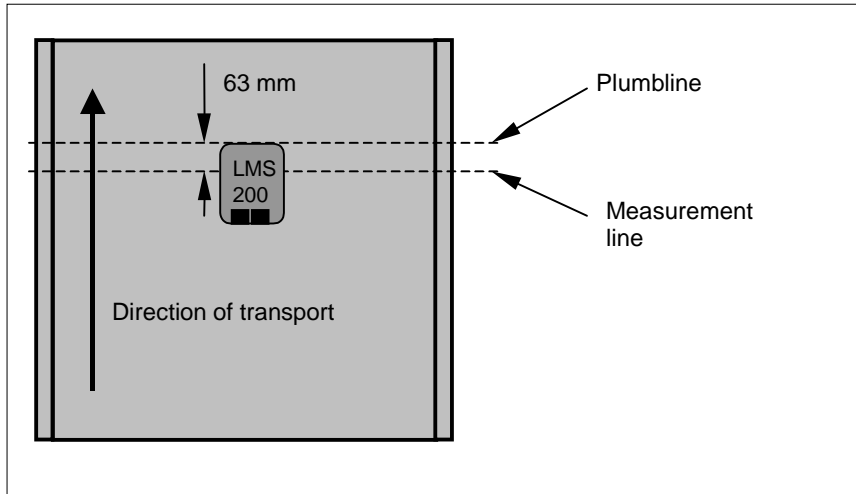

Fig. 4-4: View from above the LMS 200 with plumbline and measurement line.
2. Turn the adjustment screw that is perpendicular to the direction of transport until the measurement line of the LMS 200 is located below the LMS 200 exactly 6.3 cm from where the plumbline meets the transport system in the direction of transport, see *Fig. 4-4*. Use the switched on Scanfinder to detect the measurement line (IR laser light).
3. Turn the adjustment screw that is in the direction of transport until the measurement line is on the transport system and perpendicular to the transport direction, see *Fig. 4-4*. For this purpose, use the switched on Scanfinder to detect the measurement line (IR laser light) on the left or right side of the transport system.